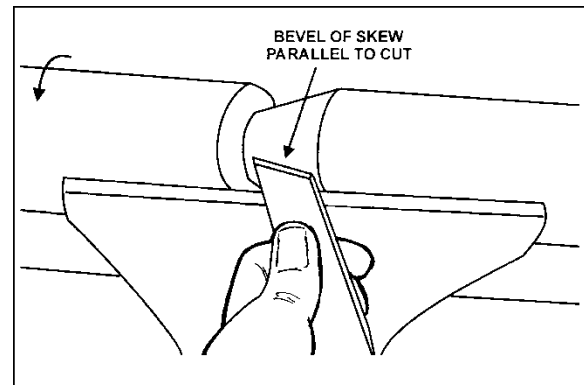

Figure 10-8
4. With the bevel parallel to the right side of the cut, raise the handle and push the tool in to the desired depth, as shown in Figure 10-8.